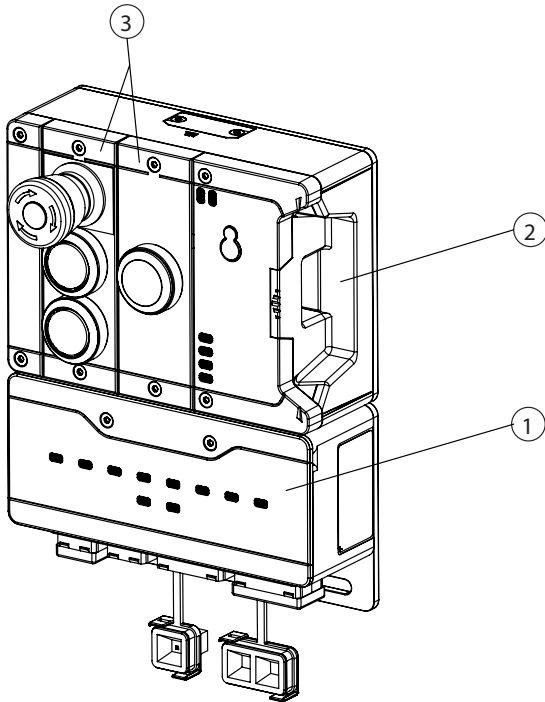

Fig. 1: Example system MGB2 Modular
Modules can in turn contain submodules. Fig. 1 shows a typical system layout with one bus module MBM (1), one locking module MGB2-L... (2) and the submodules MSM (3) installed in it. A full system can comprise up to 18 modules or submodules.